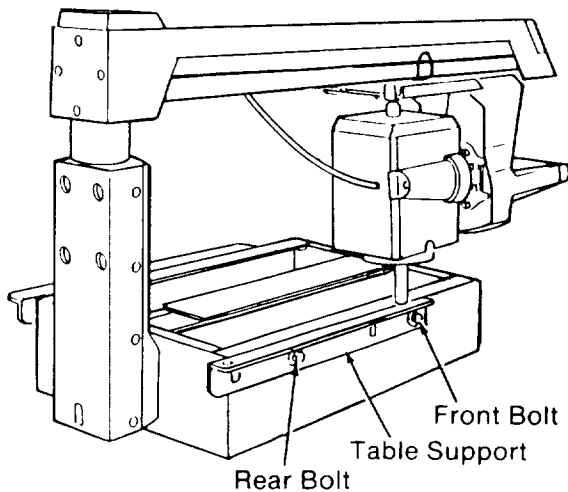

Fig. 40
13. Move the *arm* and *motor* until the *arbor shaft* is over the front bolt on the left *table support*. Do not change the elevation of the *arm* as you move from point to point. (Figure 40)
14. Mark the point on the *table support* under the center of the *arbor shaft*. (Figure 40)